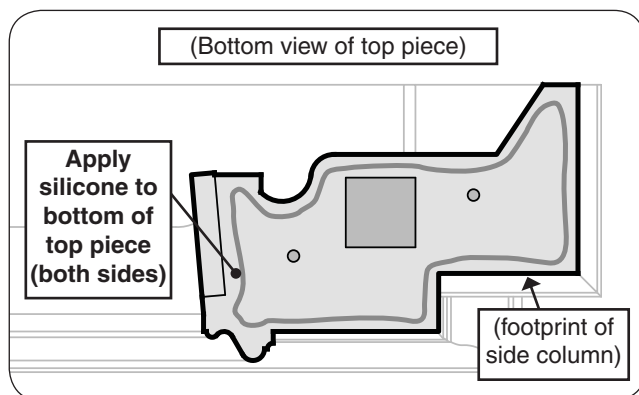

Fig. 19-2 Apply silicone (bottom of top piece)
4. Apply a bead of silicone (100% clear sealant) along the entire bottom of the top piece (both sides). See Fig. 19-2.